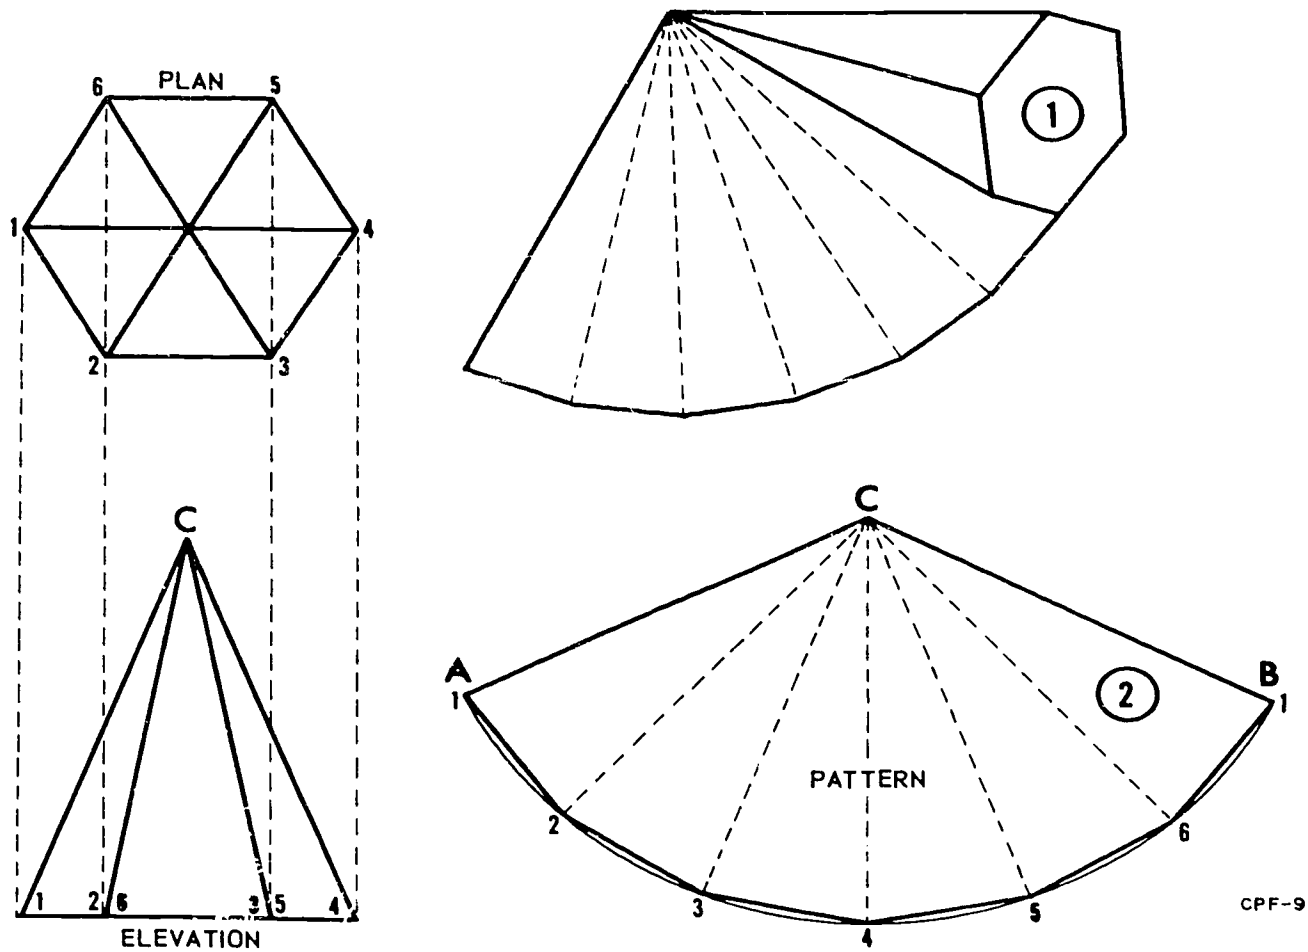

Figure 1-76. A right pyramid.
**Right pyramid.** The shape of the pattern for a right pyramid having six sides can be illustrated by holding its vertex at a definite point and rolling the pyramid, as shown in view 1 of figure 1-76. This shows the outline of each face of the pyramid as imprinted on the surface over which it is rolled; view 2 shows the stretchout of the same pattern.